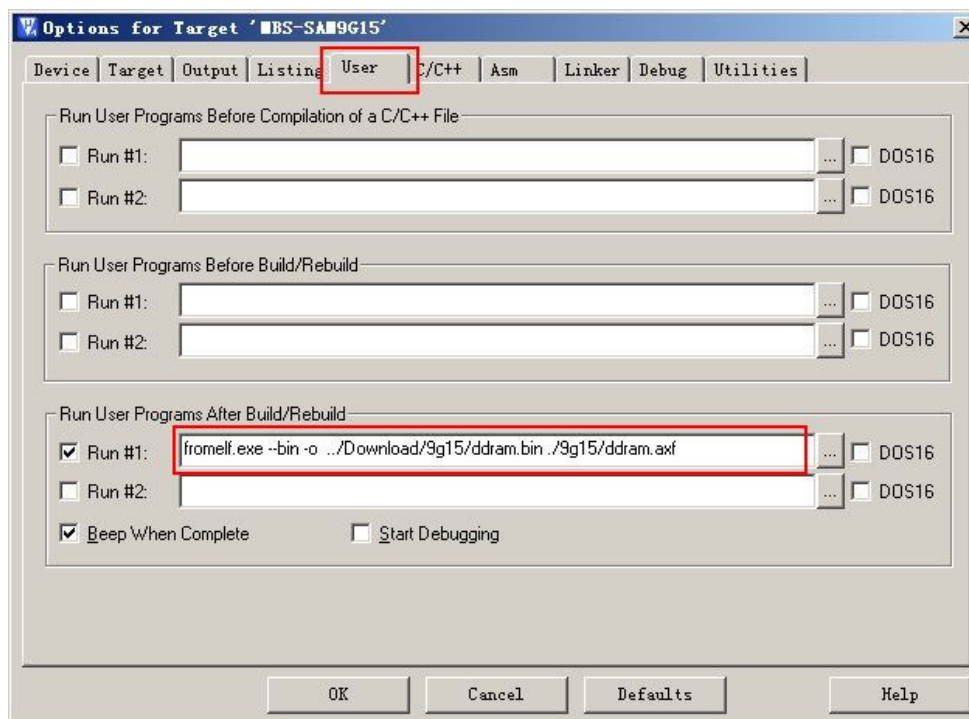

Figure 1.5 User configuration
(5) the User tab are configured as figure 1.5 to convert ddram.axf to ddram.bin, and deposits it into the download folder.